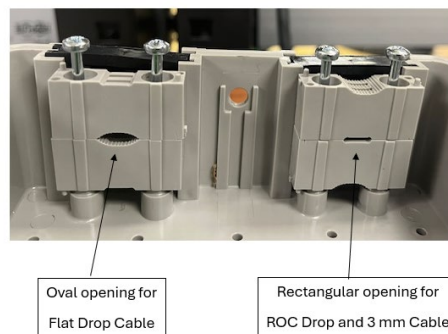

Figure 2
1. Punch a hole through the left grommet and guide the cable through the entry grommet. Make sure to use correct Cable clamps configuration as shown below in Figure 2.